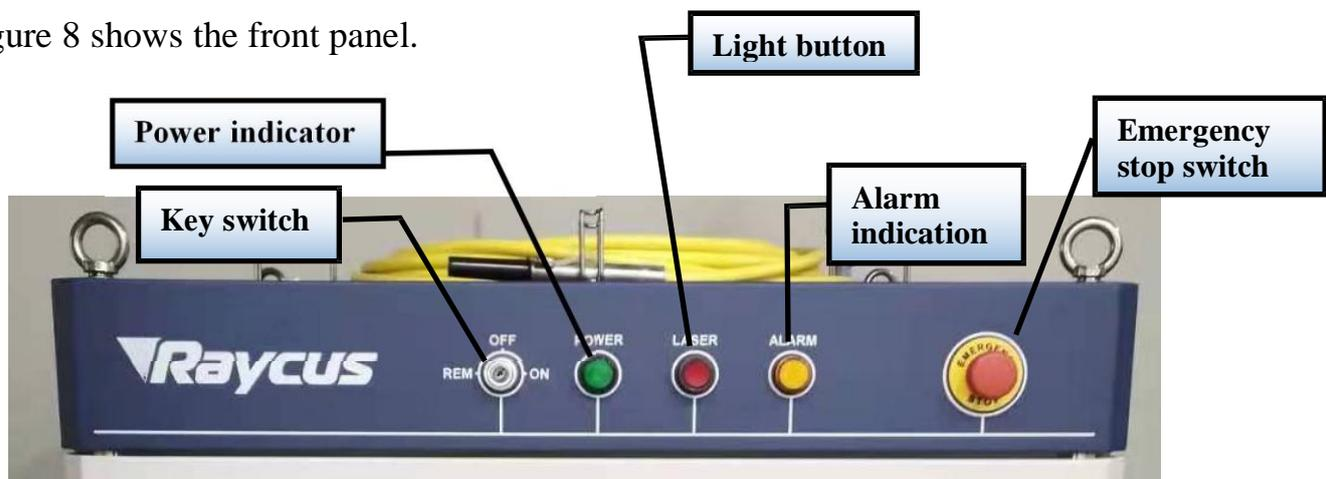

Figure 8 Front view of the panel.
- (1) Place the laser horizontally in a suitable position and fix it as necessary;
- (2) Before the laser is powered on, Please check the power supply has the correct voltage (380VAC  $\pm$  10%, 50/60Hz, See Table 2 Product Technical Data Sheet for details.), please refer to the technical parameter table of Table 2 for details, whether the grounding line is well grounded.
- (3) Connect the power cable and control cable to the product when power supply is OFF.
- (4) Clamp the water pipes on topipe connector, run the chiller to check if there is any leakage in the water circulation.
- (5) Check the output head and clean it before installation. This procedure must be performed by Raycus personnel or person authorized by Raycus.
- (6) Prevent the delivery cable from treading, pinching or excessive bending during installation.
- (7) Make sure the environment is clean, or the output head may be contaminated. It is prohibited to use fan during installation, which will cause dust in the air.
- (8) The minimum bending radius of the transmission cable of the laser shall not be less than 20cm in the non-working state (such as transport and storage). The minimum bending radius should not be less than 30cm when the laser is work.
- (9) Users can employ four lifting rings or rollers on the top or bottom of the device to carry or move it, as shown in figure8 (please check whether the lifting rings are installed firmly and whether the rollers are fully mobile before transporting the device).
Figure 8 shows the front panel.